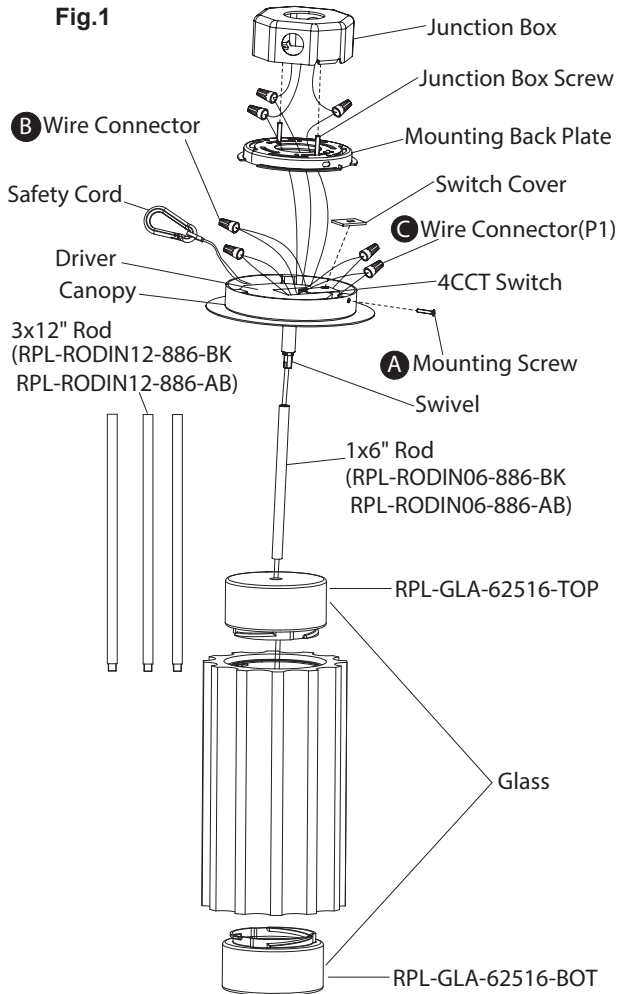

Fig.4
MOUNTING THE FIXTURE (Fig. 1 & Fig. 4)
3. Remove the mounting screw (A) from the fixture.
8. The lamp can switch between four color temperatures (2700K-3000K-3500K-4000k), which can be adjusted to your preference with the switch in the canopy (Fig.4).
11. Due to limited room within the canopy, shorten the cable as necessary to make the installation easier. Make sure to identify and label all the wiring properly before any trimming/shortening. Connect the driver's output wires to fixture wire as shown in Fig. 4, connect wires of the same color together make sure that wire connectors (C) are secured. Then tuck them inside the canopy.